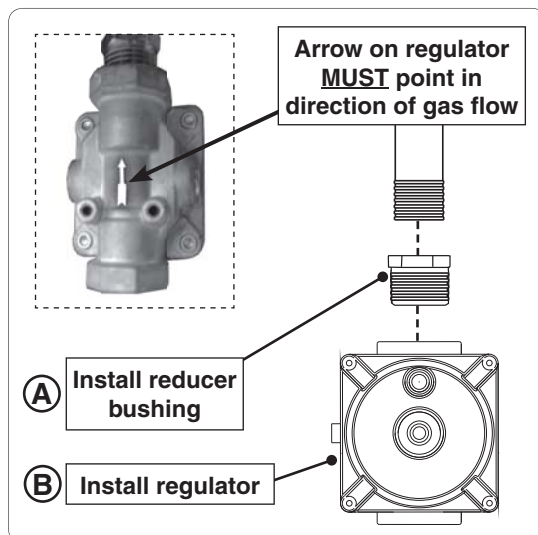

Fig. 2-2 Install bushing and regulator
1. Attach the reducer bushing (Fig. 2-2, A) to the manifold pipe using a pipe joint compound that is resistant to all gasses. Tighten securely.
2. Attach the regulator (Fig. 2-2, B) to the bushing using a pipe joint compound that is resistant to all gasses. Tighten securely.